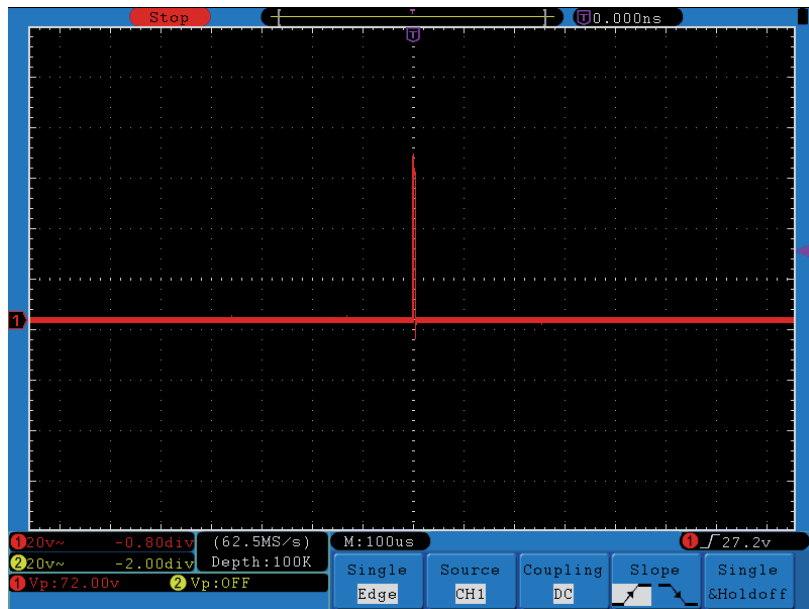

Figure 82. Capturing a Single Signal.
- 15 Check the Trigger State Indicator on the top of the screen, if it is not Ready, push down the **Run/Stop** button and start acquiring, wait for trigger to happen. If a signal reaches to the set trigger level, one sampling will be made and then displayed in the screen. By using this approach, a random pulse can be captured easily. For instance, if we want to find a burst burr of high amplitude, set the trigger level to a slightly higher value of the average signal level, press the **Run/Stop** button and wait a trigger. Once there is a burr occurring, the instrument will trigger automatically and record the waveform during the period around the trigger time. By turning the **HORIZONTAL POSITION** knob in the horizontal control area in the panel, you can change the horizontal triggering position to obtain the negative delay, making an easy observation of the waveform before the burr occurs (see Figure 82).